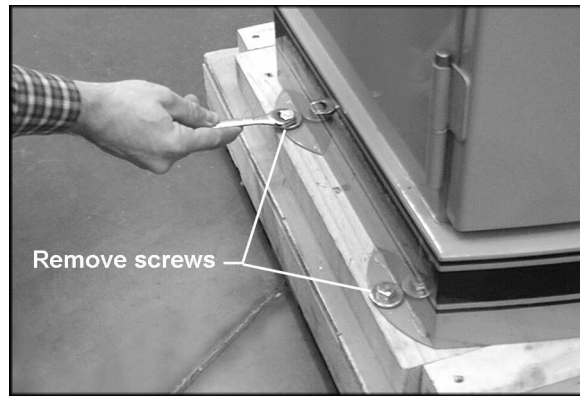

Figure 1
1. Remove the four screws and flat washers holding the machine to the pallet with a 14mm wrench, as shown in Figure 1.